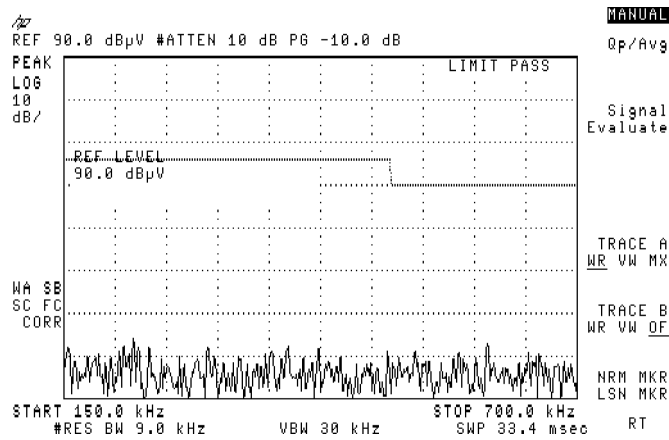

Figure 3-33. Verifying the Emissions
- 24. To verify that the emission is coming from the device under test, disconnect the BNC cable from the transient limiter's input. See Figure 3-33.